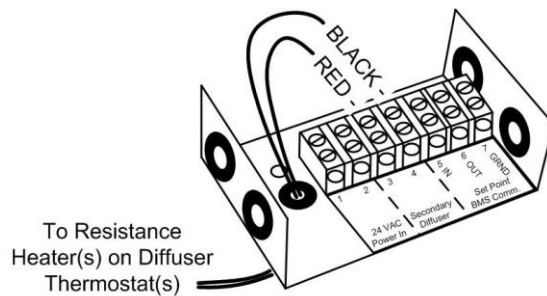

Fig. 6
19. Connect the red wire(s) to terminal 3 and the black wire(s) to terminal 4 (see Fig. 6).